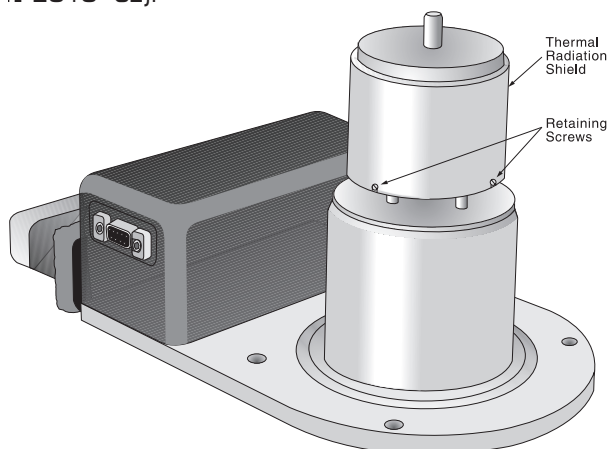

Figure 2.10
3. Loosen the three retaining screws on the thermal radiation shield, and remove it by pulling it straight up. The slots in the shield allow easy removal (refer to Figure 2.10 for location of screws).